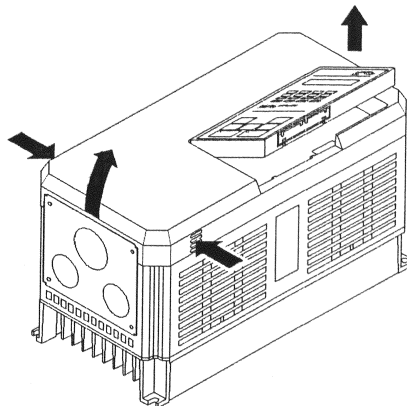

Figure 2-5
12. Remove the drive cover. For Models 2003-FVG+ through 2033-FVG+ and 4001-FVG+ through 4014-FVG+. See Figure 2-5. On larger size drives, the cover is attached with screws.